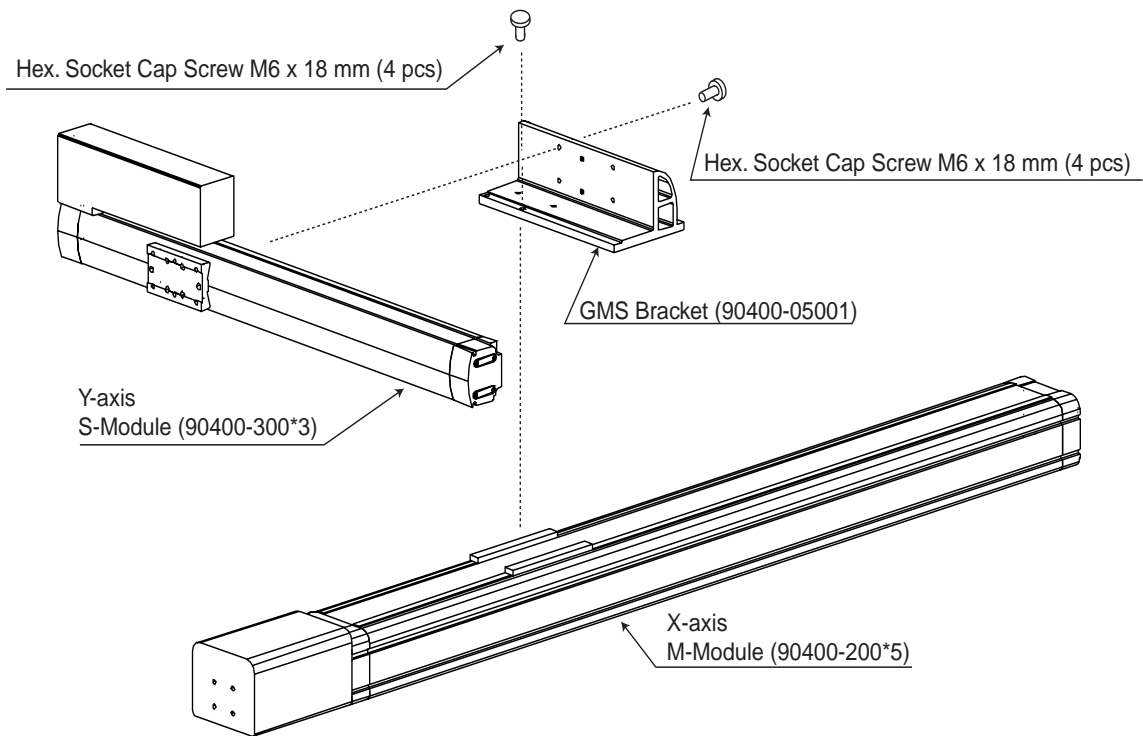

Figure 4-7. G-2 Type Mechanical Assembly
4. Mate the Y-axis to combining bracket by aligning the motor-side pin holes on the Y-axis module to the pins on the side of the bracket (these holes are on the side opposite the sliders). Carefully mate the pins and pin holes to avoid damaging the pins. Install the mounting bolts (see Figure 4-7).